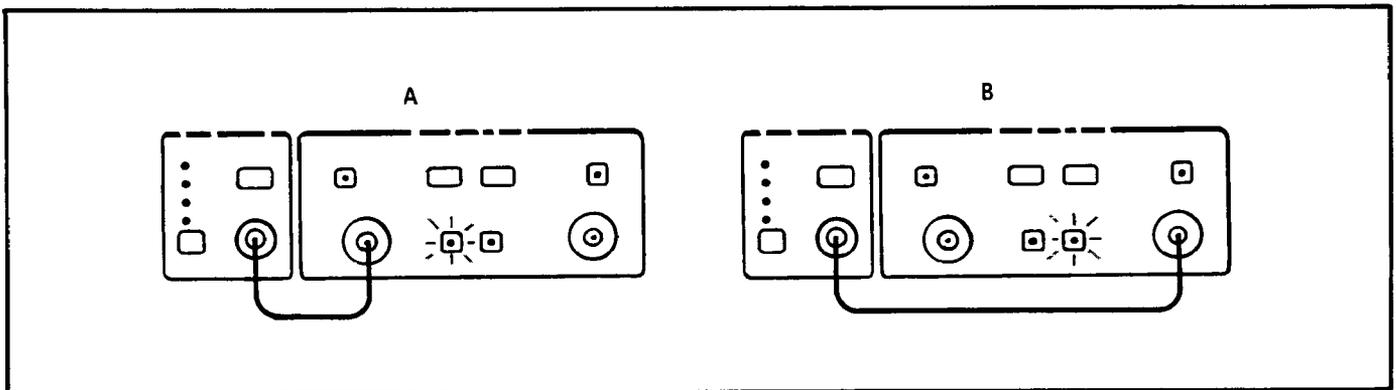

FIGURE 2-8. COMB GENERATOR CONNECTION
- 2 Connect the comb generator output to the preselector input that accommodates the chosen spectrum analyzer frequencies, and press the key next to the chosen input to enable it, as in Figure 2-8.